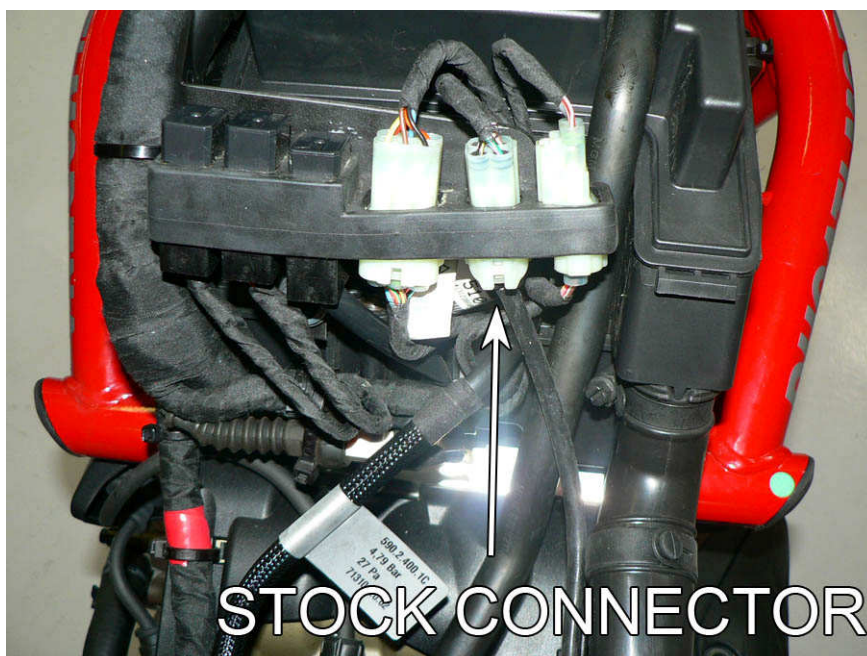

Fig.8
9. Locate and disconnect the black and white 4 pin connector placed under the fuel tank (**Fig.8**).